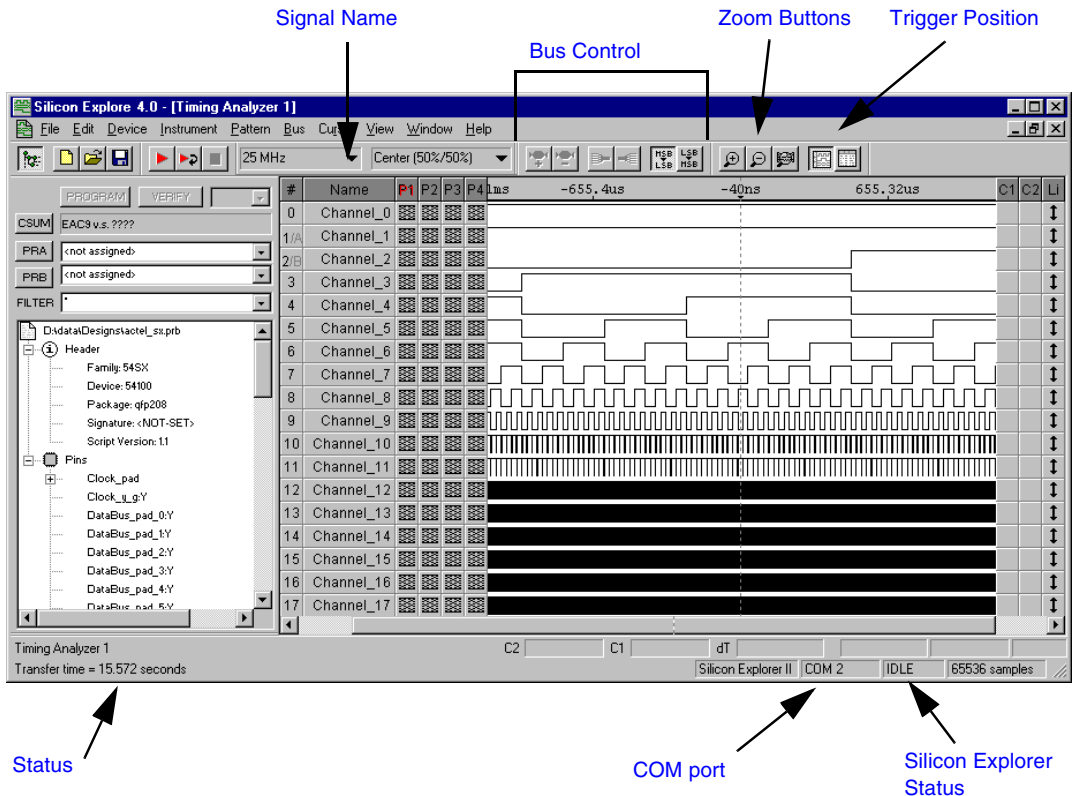

Figure 2-1. Silicon Explorer Window
- 1. Select the desired signal from the tree by clicking the net name (see Figure 2-1).** You can use the filter box to search nets quickly. Use multiple wildcard characters (“*”) to restrict your search.